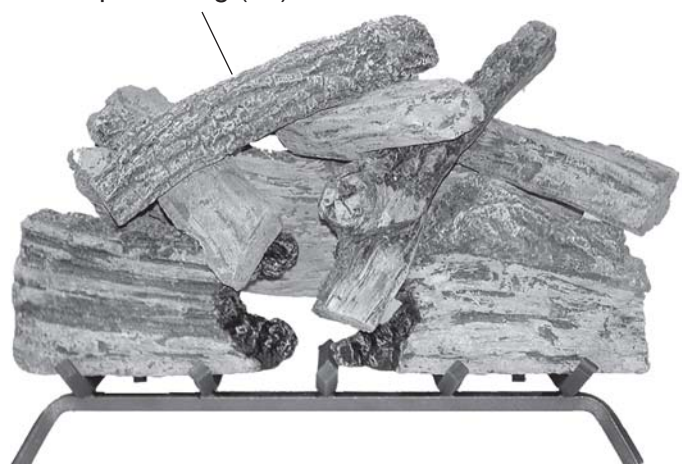

Figure 110 - Installing Top Left Log (#8)
10. Place front end of Top Left Log #8 on Log #7. Let back end of Log #8 rest on Log #6. See Figure 110.